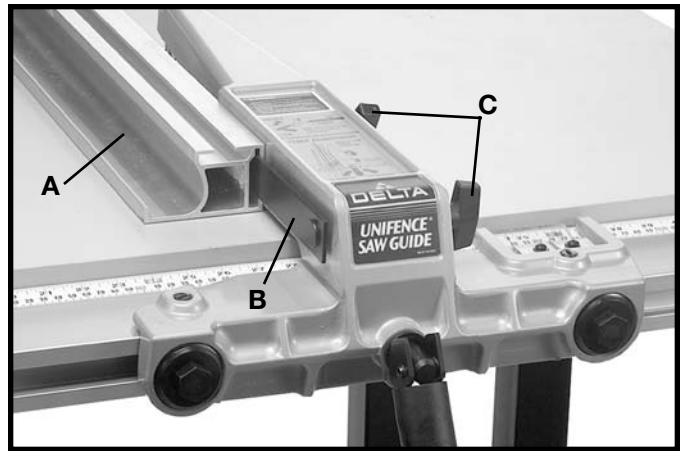
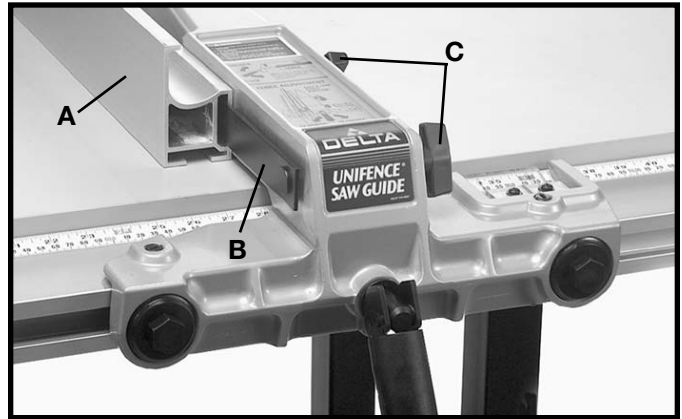

Fig. 38
Fig. 39
1. The fence (A) can be assembled to clamp plate (B) in either the horizontal position as shown in Fig. 38, or the vertical position as shown in Fig. 39. Make certain the two lock knobs (C), are loose and slide fence (A) onto clamp plate (B) as shown. Then tighten the two lock knobs (C).